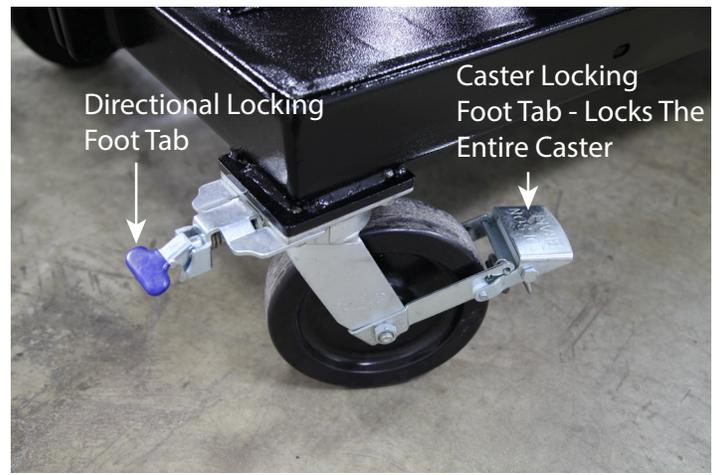

Fig. 12
- 6.) When moving the lift table, with or without a load, the casters may be locked directionally by pressing the blue foot tab downward on the caster. For ease of forward/aft movement only lock one front caster rotationally. Additionally, the lift table may be locked into position by pressing the caster locking foot tab downward. Fig. 12.
- 7.) When not in use, store lift table in a clean dry interior area, locking at least (2) casters.